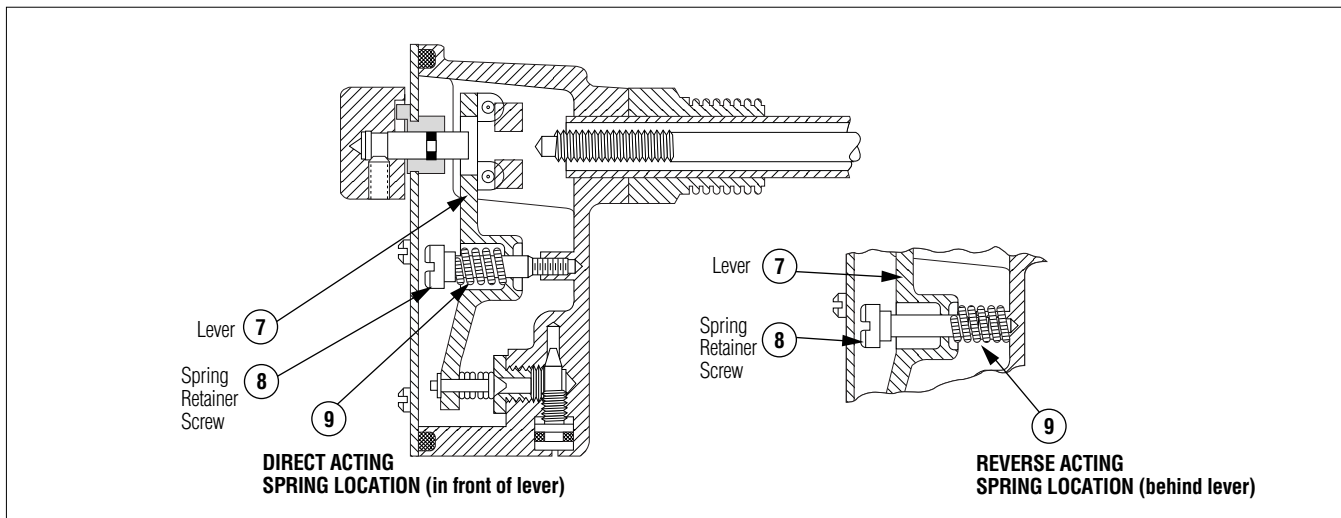

Figure 6.
(See Figures 6 and 7)
3. Install screws (31) and gaskets (32) on water-operated controller.
4. Install parts (8) and (9). (Note relationship for direct and reverse acting. See Figure 6.)
5. Back out adjustment screw (5) until collar (19) touches the pivots on the lever (7).
6. Install cover plate (2).
7. Install adjustment knob with set screw (3). The knob indicator (white line on side of knob) should be opposite the dial marking corresponding to the room temperature. Tighten the knob set screw very firmly.